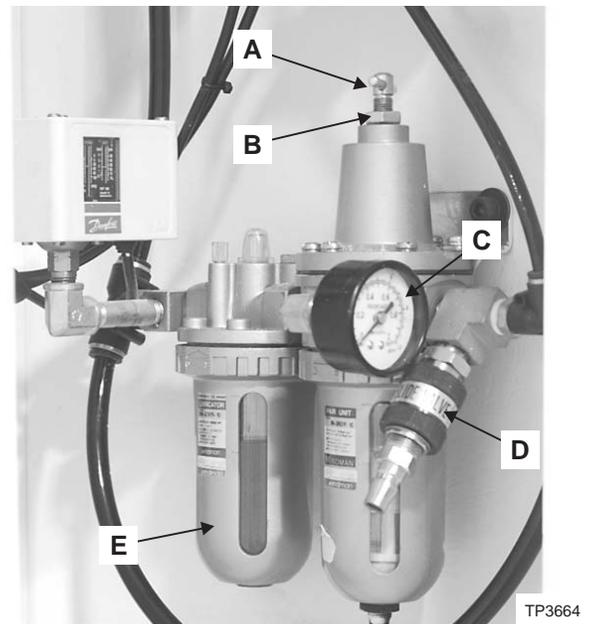

Figure 2.1 - Air Control System
The machine is equipped with a heavy duty air filter/regulator and air/oil lubricator assembly, shown in Figures 2.1 and 2.2 .
Main air valve “D”, Figure 2.1, should be turned OFF when the machine is not in use.
The recommended range for machine air pressure is 58 psig [4.0 bars] to 87 psig [6.0 bars]. The machine is equipped with an air pressure sensor that will force the machine into Emergency Stop if the air pressure is outside of this range. Machine air pressure is displayed on gauge “C”, Figure 2.1 .
1. Push main air valve “D”, Figure 2.1, upward to turn the machine air ON.
Air/oil lubricator “E”, Figure 2.1, mixes oil with the air supplied to the machine.
1. Pull main air valve “D”, Figure 2.1, downward to turn the machine air OFF.